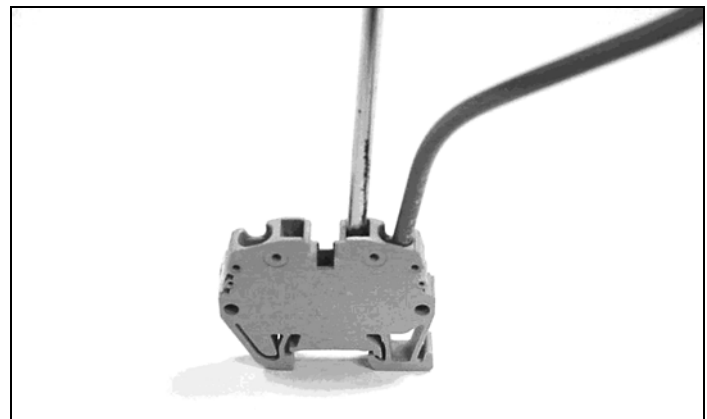

Figure 29. Wire Inserted in the "Wire" Hole.
Step 3: Once the screwdriver is in place, obtain a stripped wire (strip about 1/4 in.) and insert it into the larger circular wire hole as shown in Figure 29. Push the wire in until it can go no further.